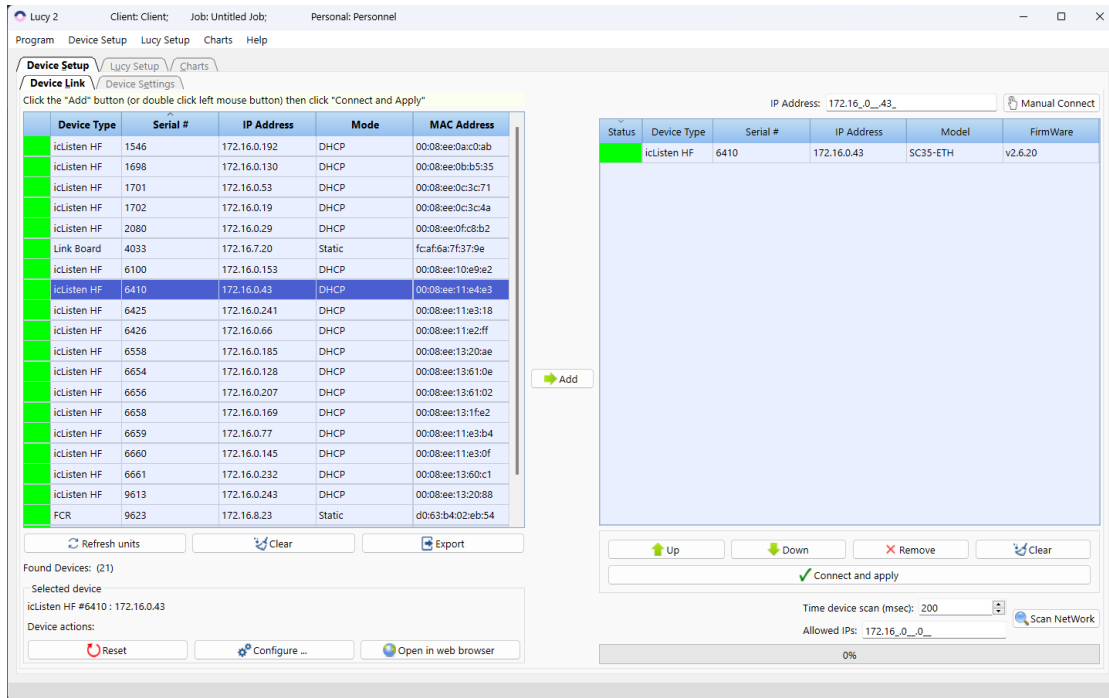

Figure 5-1
2. Select **“Lucy Setup”**, then **“Link Setup”** (Figure 5-1).
4. Click **“Scan Network”** button (Figure 5-1).